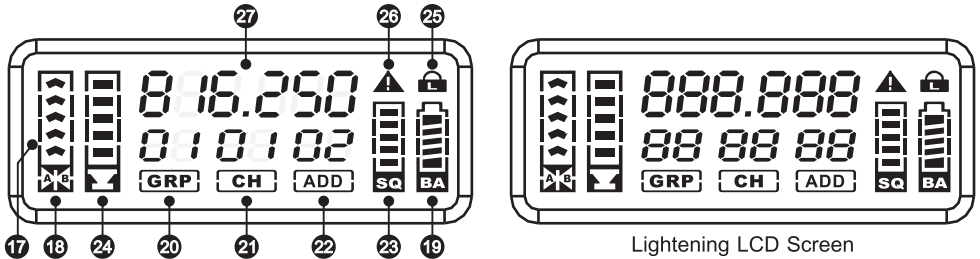

Fig. 11
1. LCD Screen displays functions and parameters. Fig. 11: